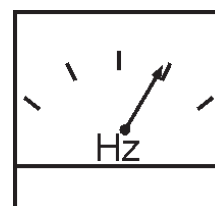

Figure 46. Frequency Meter (Hz)
12. The generator's frequency meter (Figure 46) should be displaying the 60 cycle output frequency in **HERTZ**.